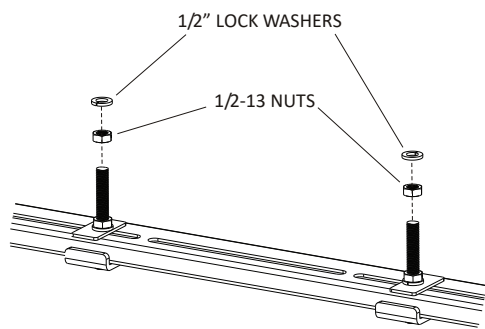

Figure 4-15
6. Thread 1/2-13 nuts onto 1/2-13 x 4" L bolts. Place 1/2" lock washers onto bolts. Mounting washers will not be used. **See Figure 4-15.**